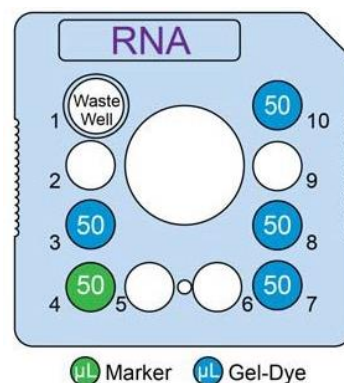
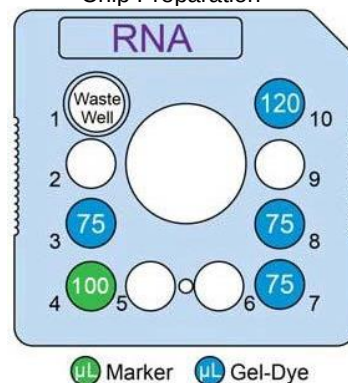

Figure 1. Low-Throughput Chip Preparation
Figure 2. High-Throughput Chip Preparation
2. Using a Reverse Pipetting Technique, add Gel-Dye solution to chip wells 3, 7, 8, and 10 as shown in **Figure 1 (LT)** or **Figure 2 (HT)**.
3. Add **50 µL (LT)** or **100 µL (HT)** RNA Pico Marker ● to chip well 4 as shown in **Figure 1 (LT)** or **Figure 2 (HT)**.